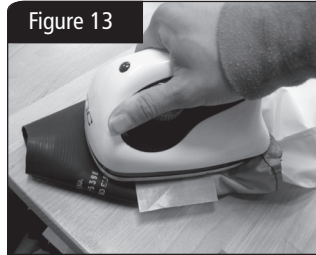

Figure 13
8. Press the iron on the non-stick fabric sheet with moderate pressure for 30 seconds. See Figure 13.